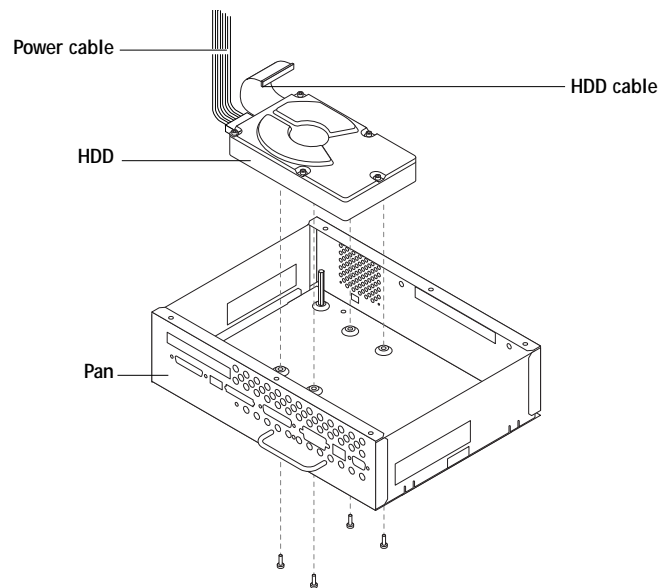

FIGURE 4-13 Replacing the HDD
4. With the pan on its side, remove the four screws on the bottom of the pan that secure the HDD (see Figure 4-13).
3. With the pan on its side, align the four holes in the bottom of the HDD with the holes in the bottom of the pan and replace the four screws you removed earlier (see Figure 4-13 on page 4-22).